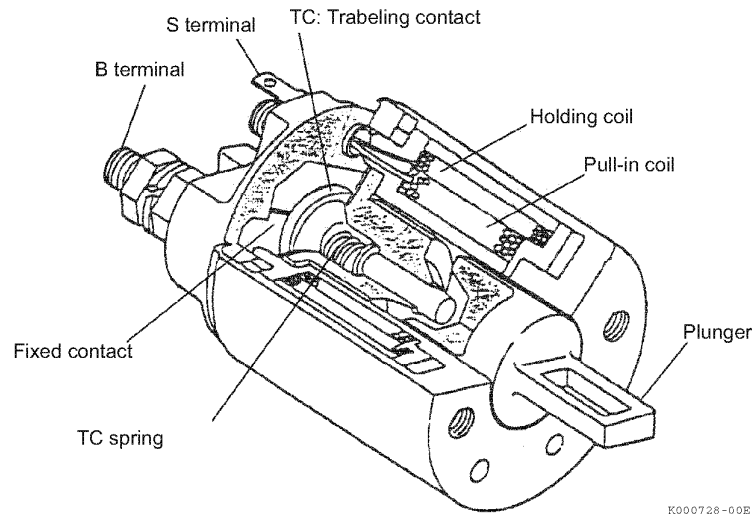
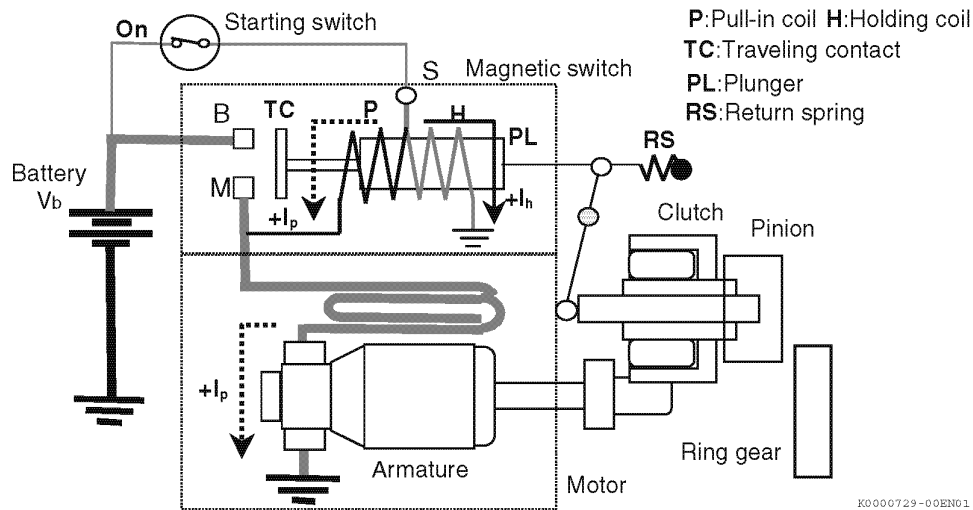
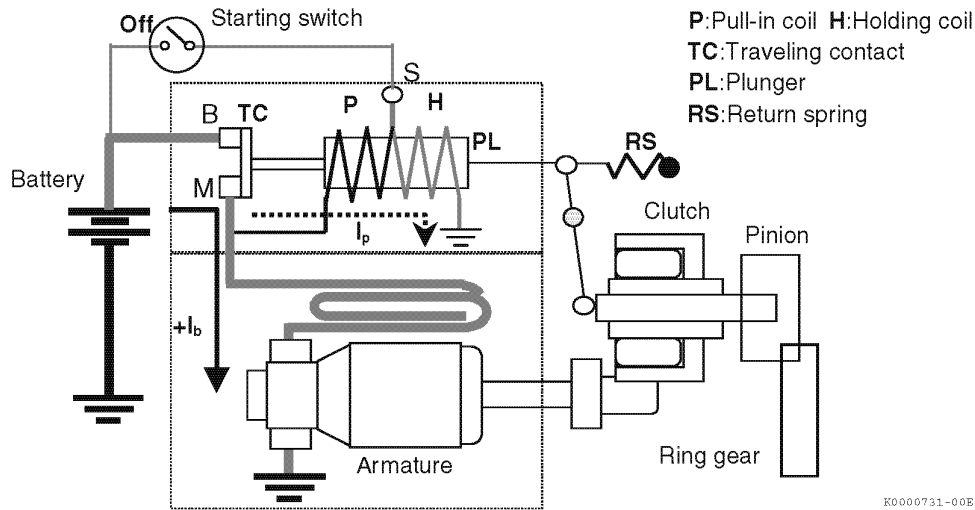

Figure 13-3
Figure 13-4
Figure 13-6
Figure 13-3 illustrates the magnetic starter solenoid. The magnetic switch has the following major functions:
Figure 13-4 shows the starter motor electric circuit to illustrate the movement of the pinion and the moving contact point, and the flow of current.
When the engine has started, turn the key switch back from the START position to the ON position. **Figure 13-6** shows the flow of current at this moment.
In the state shown in (**Figure 13-6**), both coils are in series connection. Therefore, the magnitude of the current that flows through the coils is the same.
Figure 13-4 shows that pull-in coil P is on the left side of the plunger and holding coil H on the right side. Actually, both coils are in a two-tiered structure as shown in **(Figure 13-3)**. Therefore, though **(Figure 13-4)** describes the flow of current to the left and right separately, it actually flows in the same direction in both coils. That is, the lines of magnetic force of both coils are in the same direction.
- The magnitude of current (I_p) that flows through both coils is the same. The number of turns (T) of both coils is also the same. Therefore, the magnitude of the magnetic force (M_f) produced by both coils ($M_f = I_p \times T$) is the same.
- The direction of the current that flows through pull-in coil P when the starter motor is cranking is left (positive) as shown in **(Figure 13-4)**. The direction of the current that flows through pull-in coil P when the key switch returns to the ON position is right (negative) as shown in **(Figure 13-6)**. On the other hand, the direction of the current that flows through the holding coil when the starter motor is cranking and when the key switch returns to the ON position is on the same right (positive).
According to **(Figure 13-6)**, the pull-in and holding coils negate their magnetic force at the moment the key switch returns to the ON position. For details, read *When the engine has started on page 13-11* and *Physical characteristics of coils and their structures on page 13-11*.